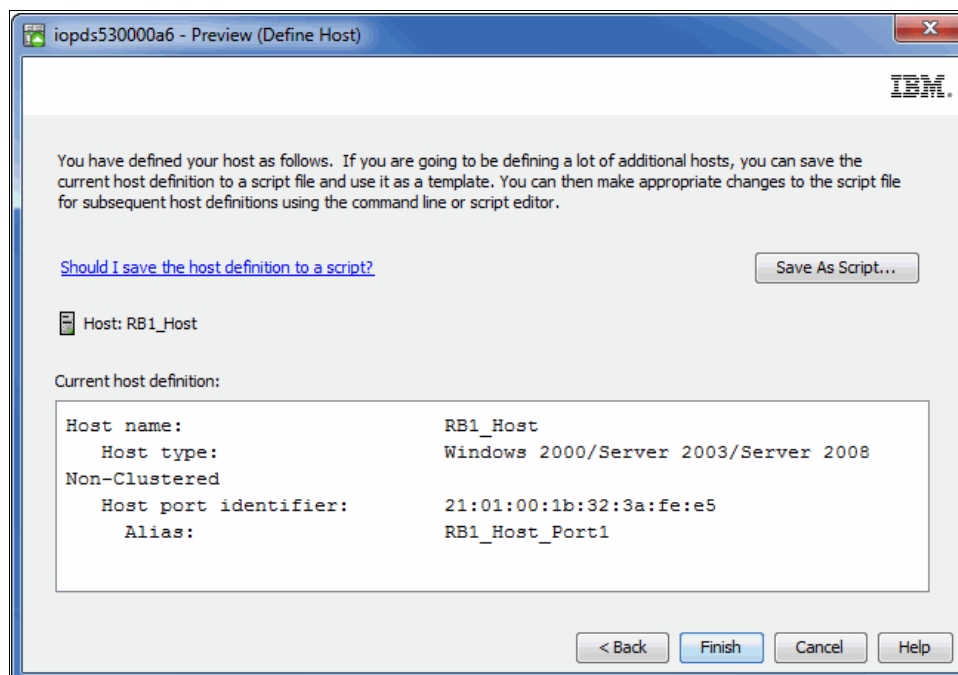

Figure 2-67 Verifying your host configuration
8. In the next panel, we review all the configuration changes, before we create the host. After reviewing, click **Finish**, as shown in Figure 2-67.